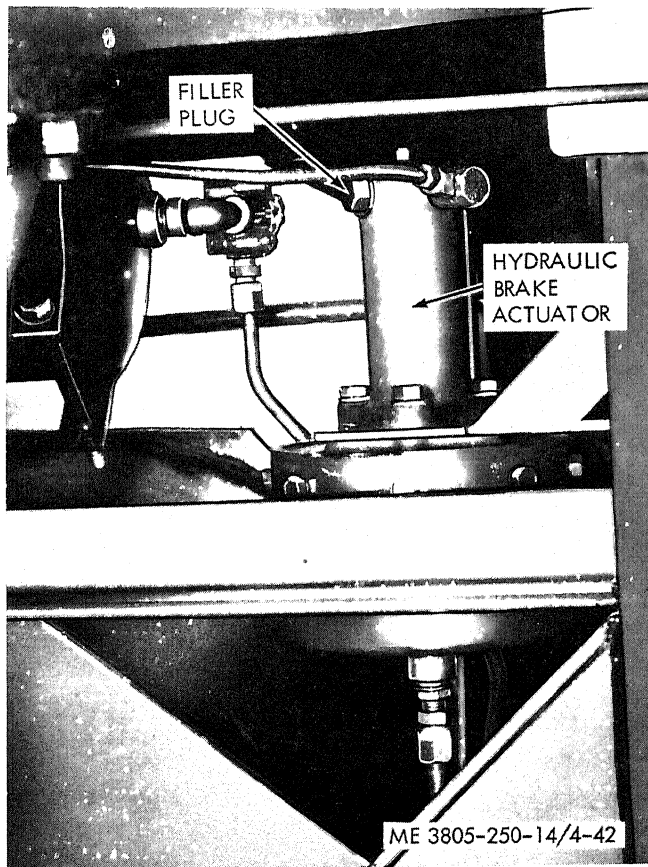

Figure 4-42. Brake actuator service.
- (1) Inspect fittings for leakage.
- (2) Check mounting bolts for security.
c. Service (fig. 4-42).
(1) Clean the area around the brake actuator filler plug and remove the plug. Fluid level should be $\frac{1}{2}$ inch from the filler opening.
(2) Replenish fluid if necessary. Refer to the Lubrication Order for the correct lubricant. Capacity is 1 pint.
(3) Install the filler plug and tighten securely.